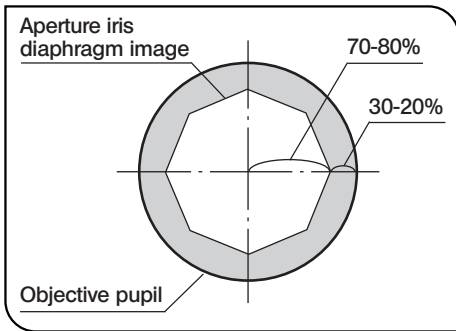
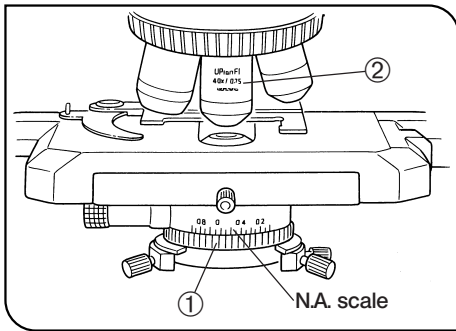

Fig. 31
Fig. 32
Aperture Iris Diaphragm (Figs. 31 & 32)
- Since the contrast of microscope specimens is ordinarily low, setting the condenser aperture iris diaphragm to between 70 and 80% of the N.A. ② of the objective in use is usually recommended. Adjust the ratio by removing the eyepiece and looking into the eyepiece sleeve while adjusting the aperture iris diaphragm ring ① until the image shown in Fig. 31 is seen.
③ Using the numerical aperture scale:
You can use the condenser numerical aperture scale by adjusting the aperture iris diaphragm ring ①. (Fig. 32)